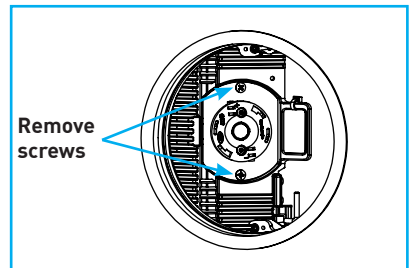

Fig.46
3. Using a standard #2 Phillips-head screwdriver, remove 2 screws from LED assembly to detach from mounting surface (Fig.46).